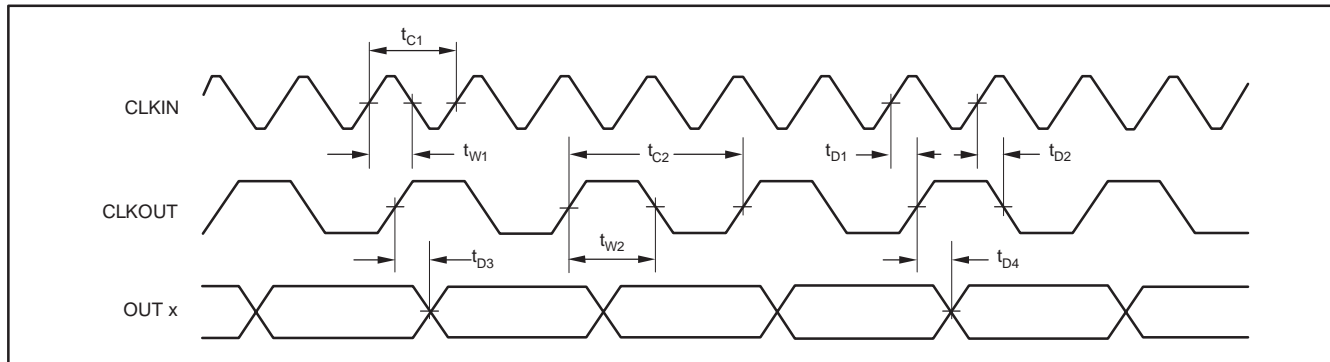

Figure 1. ADS1205 Timing Diagram
(1) All input signals are specified with  $t_{\text{R}} = t_{\text{F}} = 5\text{ns}$  (10% to 90% of  $\text{BV}_{\text{DD}}$ ) and timed from a voltage level of  $(V_{\text{IL}} + V_{\text{IH}})/2$ . See Figure 1.